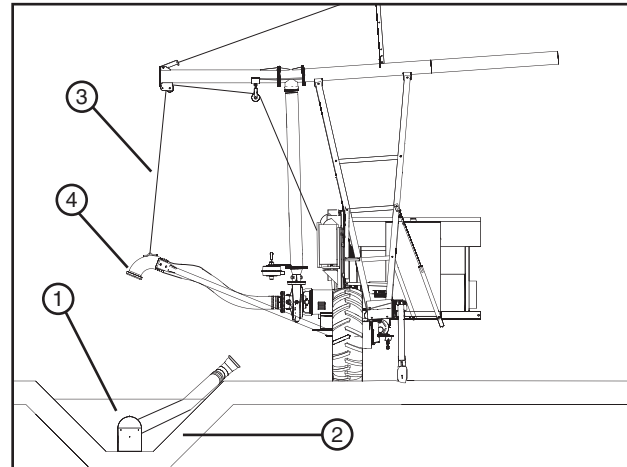

Figure 78-1 1. Suction Inlet 2. Ditch 3. Lift Cable 4. Elbow
1. Raise the suction inlet out of the ditch using the lift cable, high enough to clear obstructions, then disconnect the inlet tube at elbow as shown in figure 78-1. To prevent damage during swing around move machine away from the ditch so that the wheels will not fall in the ditch.